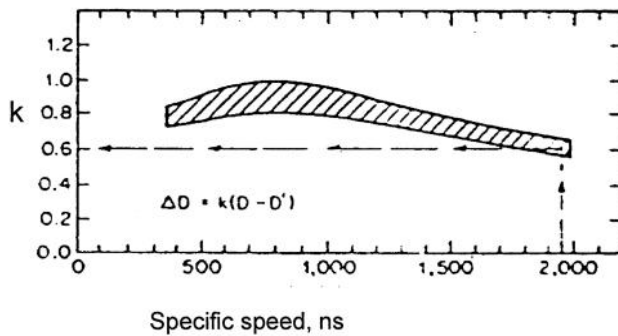
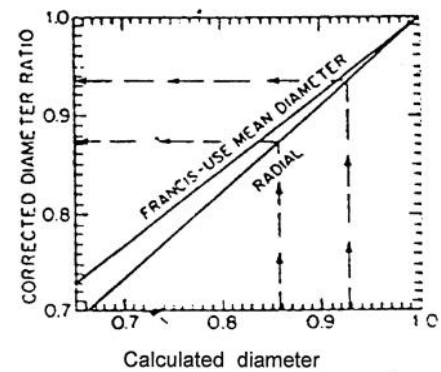

Figure 14 Correction due to Stepanoff
Figure 15 Correction due to Rutschi
As Karassik in the handbook points out, dynamic similarity is not satisfied and suggests that cutting takes place in small steps with a test run each time. Figure 14 taken from Stepanoff (6) suggests a correction based on experience over many years that gives a more accurate prediction of diameter, and Figure 15 is an alternative correction based on specific speed by Rutschi (7).